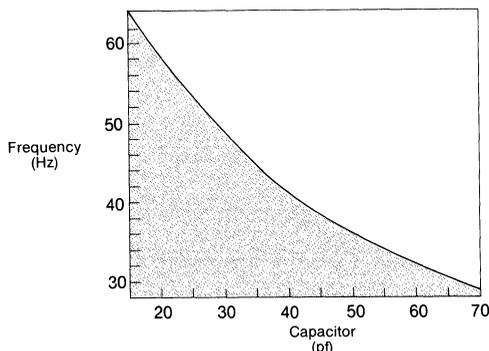

FIGURE 1
7. The LCD  $\phi$  pin can be used in two modes, driven or oscillating. If LCD  $\phi$  is driven, the circuit will sense this condition and pass the LCD  $\phi$  input to the Backplane output. If the LCD  $\phi$  pin is allowed to oscillate, its frequency is inversely proportional to capacitance and the LCD driving waveforms have a frequency  $2^8$  slower than the oscillator itself. This relationship is shown in Figure 1. The frequency is nearly independent of supply voltage. If LCD  $\phi$  is oscillating, it is important to keep coupling capacitance to backplane and segments as low as possible. Similarly, it is recommended that the load capacitance on LCD  $\phi$  be as large as is practical.
8. There are two obvious signal races to be avoided in this circuit, (1) changing Data In when Clock is falling, and (2) changing load when Clock is falling.